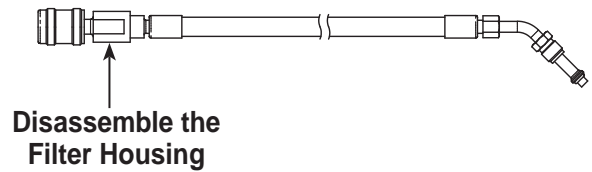

Figure 22
2. Disassemble the tank fill hose at the filter housing as shown in Figure 22.